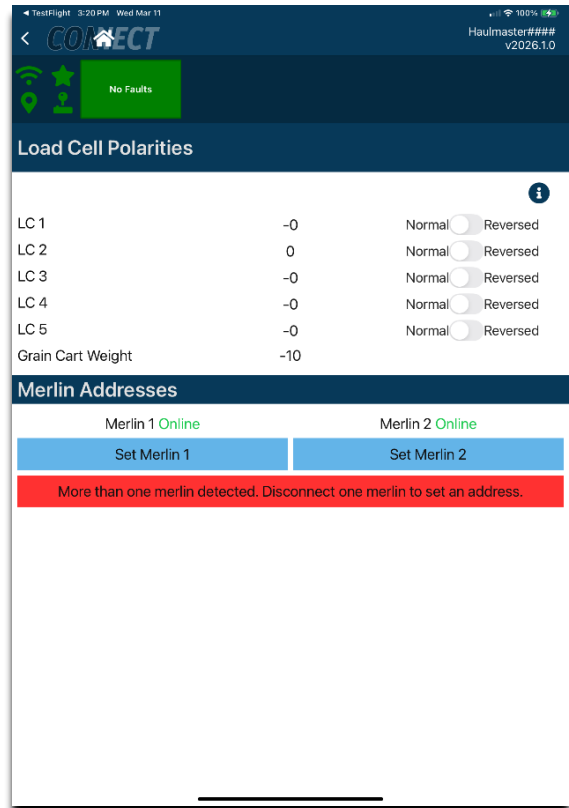

Figure 82 Load Cell Polarities
10. Plug in both Merlins, **Merlin 1 Set** and **Merlin 2 Set**, should now be Online. The bottom bar will go **red** as in Figure 82 above.